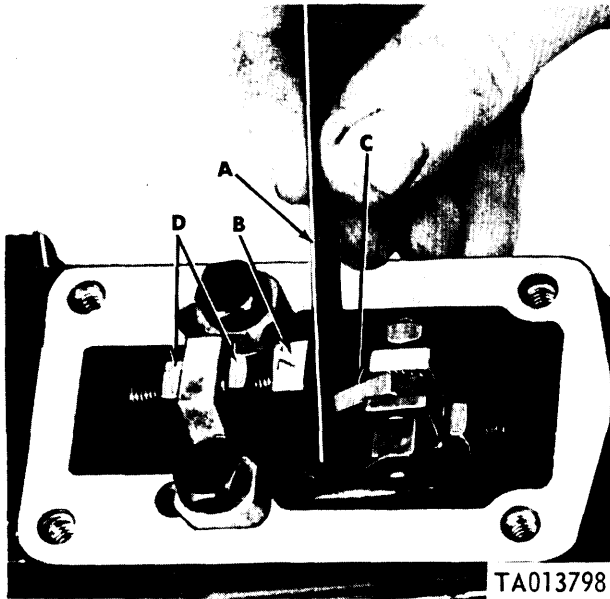

Figure 3-157. Checking stop plate and smoke limit cam clearance (code G pumps).
(2) Refer to figure 3-157. With throttle lever secured in full fuel position, insert a feeler gage (A) between the stop plate (B) and smoke limit cam (C) and adjust locknuts (D) of droop plate screw to obtain a preliminary adjustment clearance of 0.020-inch .